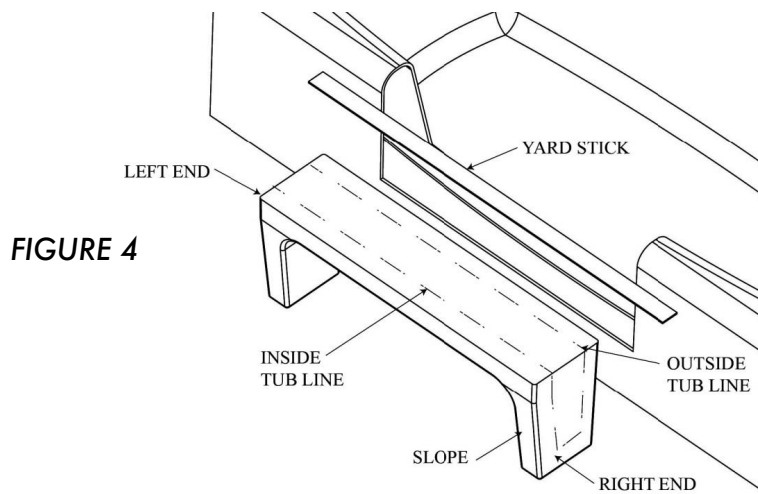

FIGURE 4
6. Place CleanCut Step as shown in Figure 4. Use a tape measure and transfer the shape of the inside of the tub edge to the Step. The inside of the tub may be irregular in shape, so measurements for the inside line must be made every 3" from one end of the Step to the other. Once completed, use your yard stick and marker to connect the markings for the inside line.